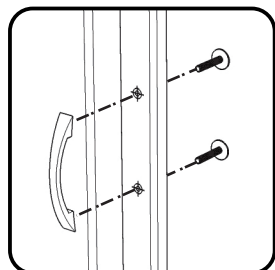

Figure 7
Attach Pull Handles to Doors (R) and (S) with Machine Screws. (See Figure 7)